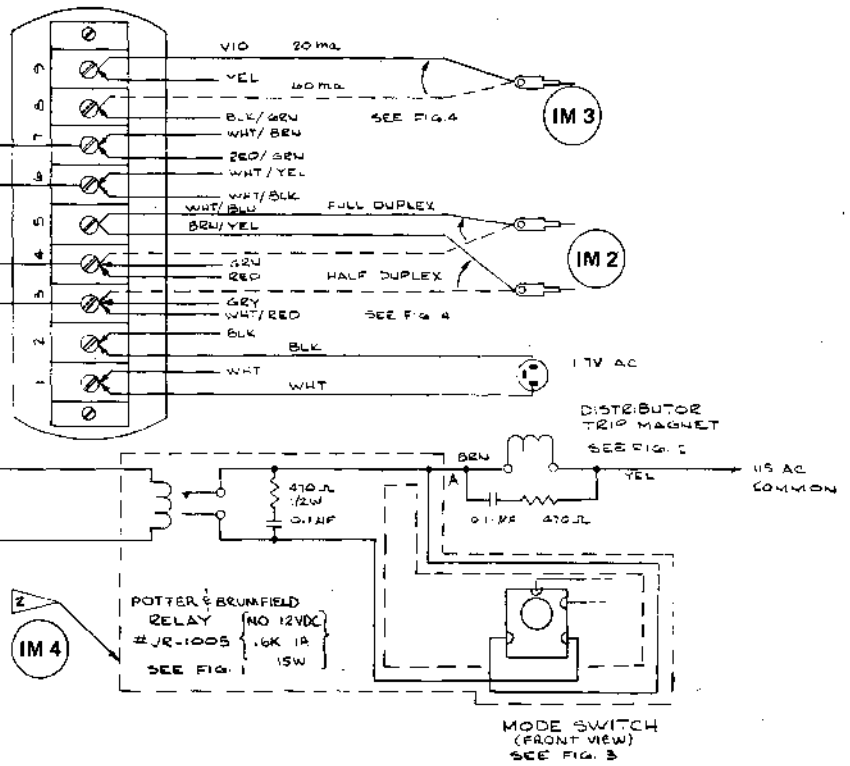

Figure 6. Schematic
1. A two-wire receive loop must be created. This is accomplished by the connection of two wires between the teletype and the "SIM" board in accordance with Figure 6.
2. A two-wire send loop similar to the receive loop must be created. (See Figure 6.)
3. A two-wire tape reader loop connecting the reader control relay to the "SIM" board must be created. (See Figure 6.)